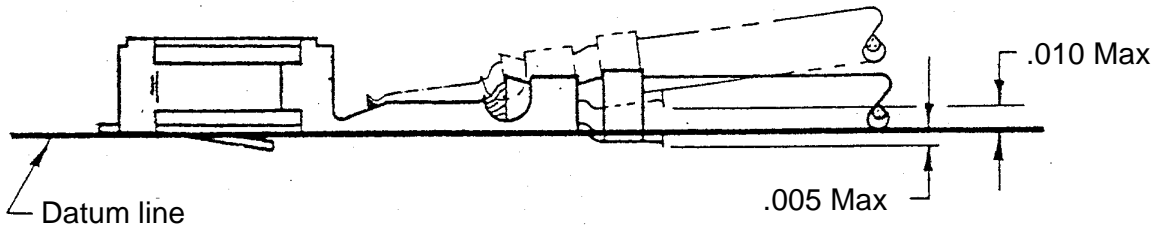

FIGURE 3
1. The contact, including the cutoff tab and burr shall not be bent above or below the datum line more than the amount shown in Figure 3.